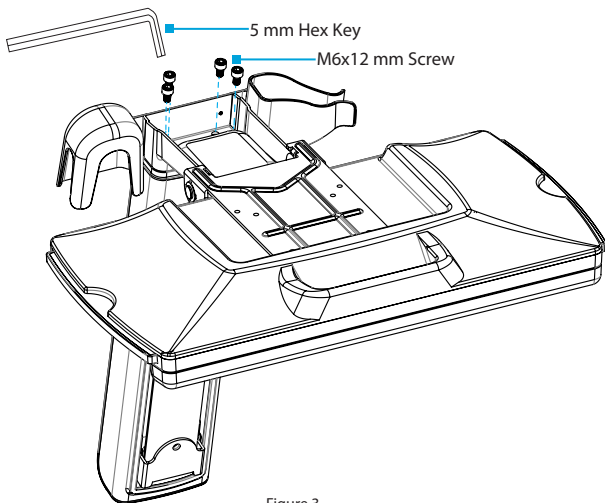

Figure 3
1. Flip the **Column** and the **Keyboard Tray** upside-down. (Figure 3)